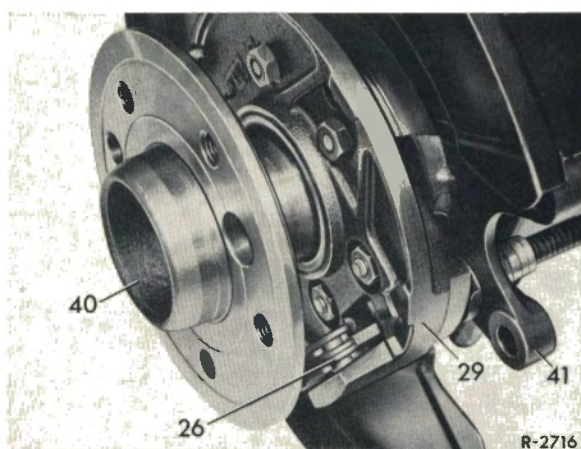

Fig. 42-28/5
10. Rub all bearing and sliding surfaces of the expansion lock with Molycote paste. Attach the brake cable (39) to the expansion lock (26) by means of the pin (33). Press the expansion lock into the back plate (29) (Figs. 42-28/5 to 7).